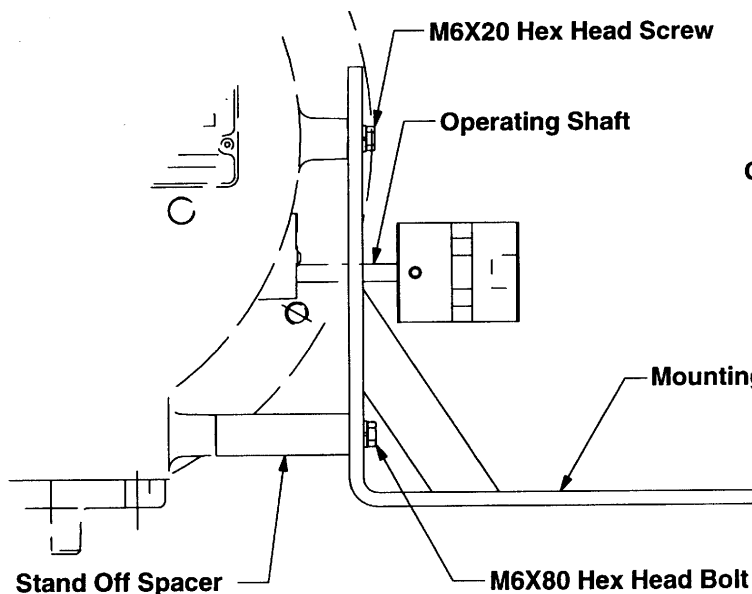

Figure 1
3. Attach the stand off spacers between the control motor bracket and the burner with two M6X80 hex head bolts. Mount the bolts through the narrow slots located below holes 2 and 3. Refer to Figures 1 and 2.